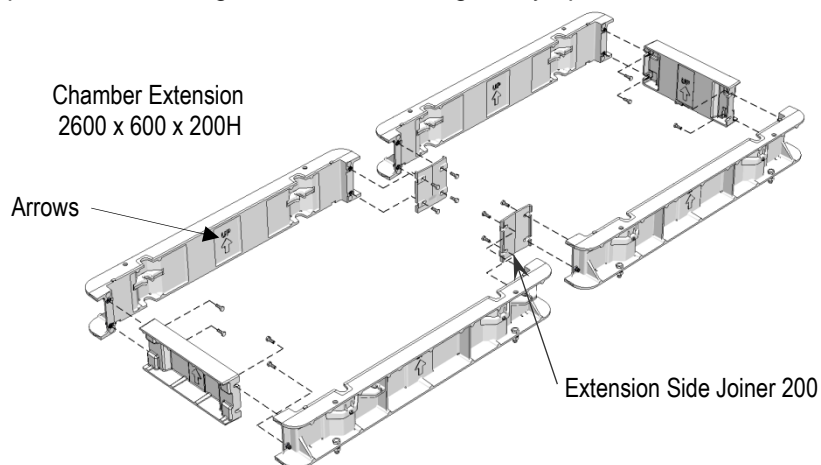

Fig 6a
6. Assemble **chamber extension** as per Fig 6a using the **extension side joiners 200** and 16 – M10 x 30 bolts and washers supplied. Place on top of chamber flange. See arrows for right way up.